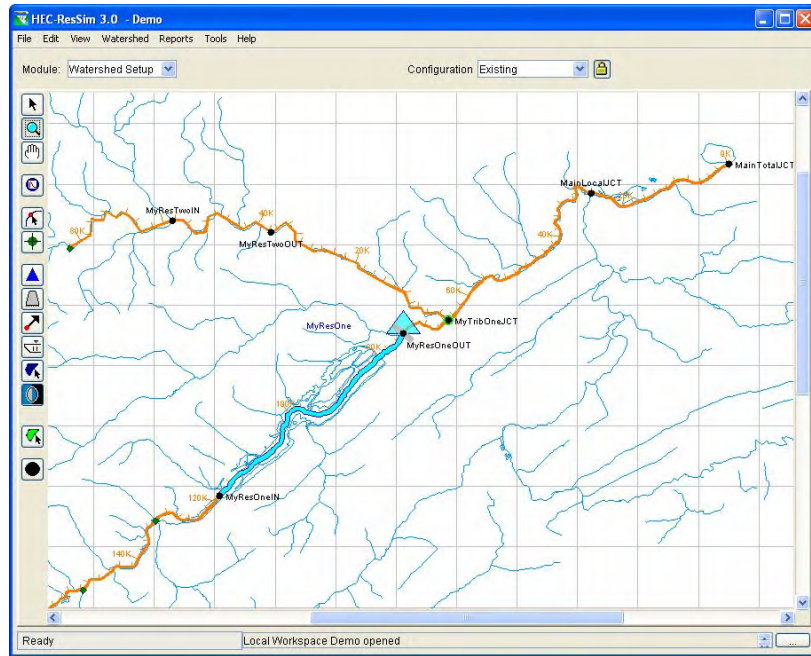

Figure 13 – A Simple Configuration, Existing
- **Save the Configuration.** When you are finished adding elements to the Configuration, be sure to save it and turn off editing. Select **Save Configuration** from the **Watershed** menu to save, then “unlock” the Configuration lock (yellow lock button) to toggle off the editability of the Configuration. A simple Configuration (named Existing) is shown in Figure 13.